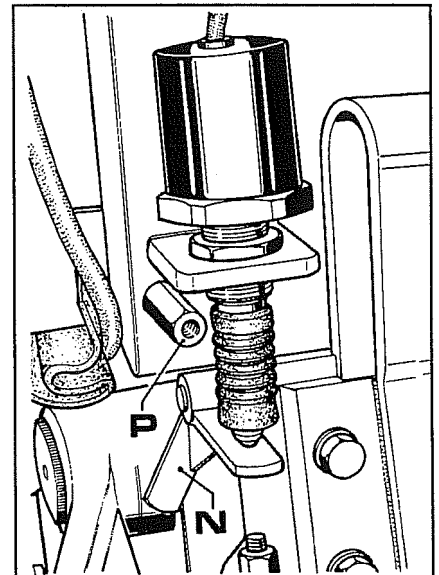
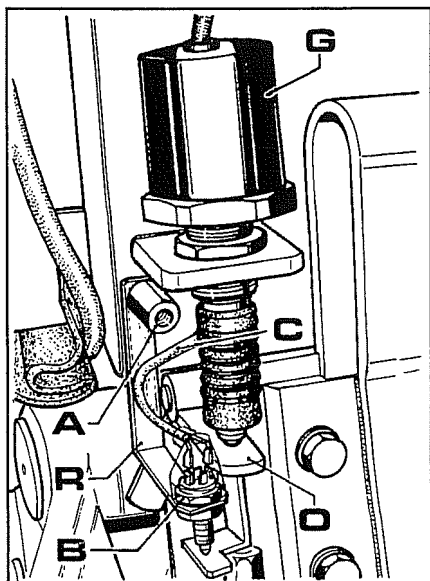

Fig. 39
Fig. 40
2. Substitute sensor lever **N** Fig.39 with sensor/limit switch lever **O** Fig.40.
3. Remove stud **P** Fig.39 and fix limit switch mounting **R** with the new stud **A** Fig.40 and then fit switch **B**.
4. Connect cable **C** Fig.40 to the switch passing it under the seat mounting to reach the raise/lower control box mount.
6. Check the exact position of sensor **G** Fig.40 by lowering the lift all the way and then regulate the sensor so that its tip is in contact with lever **O**.